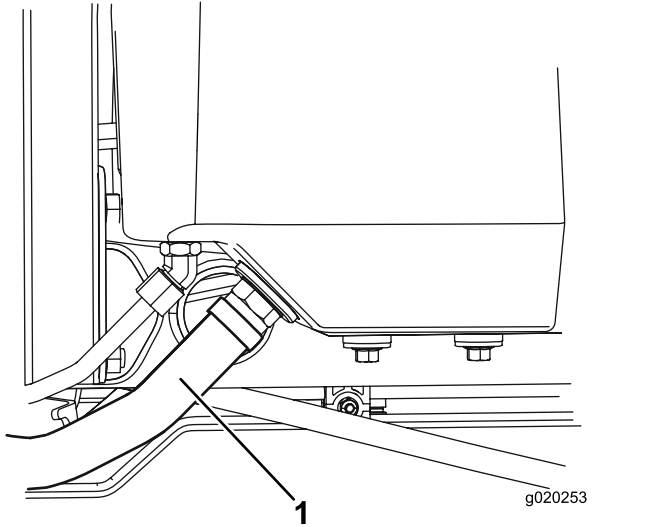

Figure 81
2. Disconnect the large hydraulic hose (Figure 81) from the reservoir and let the hydraulic fluid flow into a drain pan.